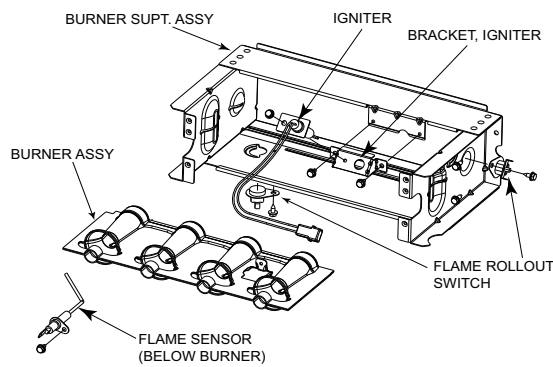
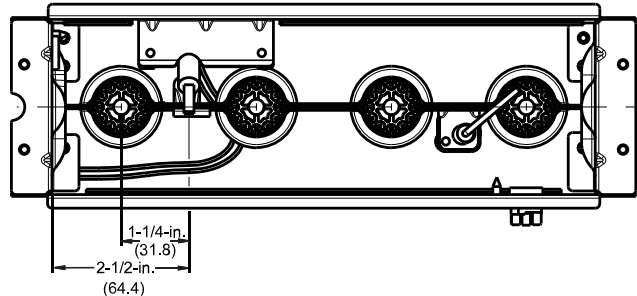
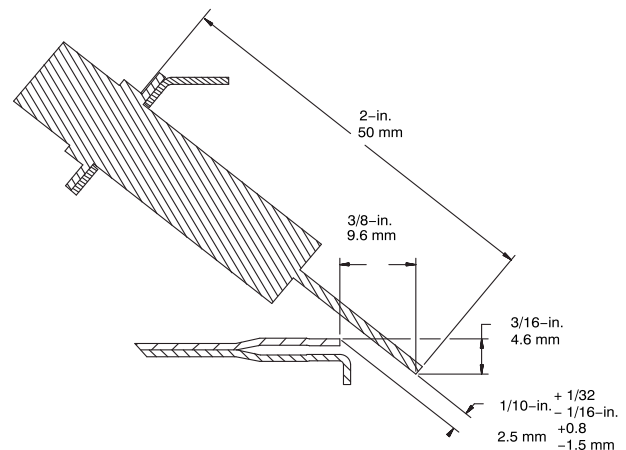

Fig. 67 – Burner Assembly
Fig. 68 – Igniter Position - Top View
Fig. 69 – Igniter Position - Side View
Refer to Fig. 67.
8. Check the igniter alignment. See Fig. 67, Fig. 68, and Fig. 69.
The igniter does **NOT** require annual inspection. Check igniter resistance before removal. See Fig. 67, Fig. 68, and Fig. 69.
- a. Using a 1/4-in. driver, remove the two screws that secure the igniter mounting bracket to the burner assembly See Fig. 67.
6. To replace igniter and bracket assembly, reverse items 5a through 5d.
7. Reconnect igniter harness to the igniter, dressing the igniter wires to ensure there is no tension on the igniter itself. See Fig. 67.